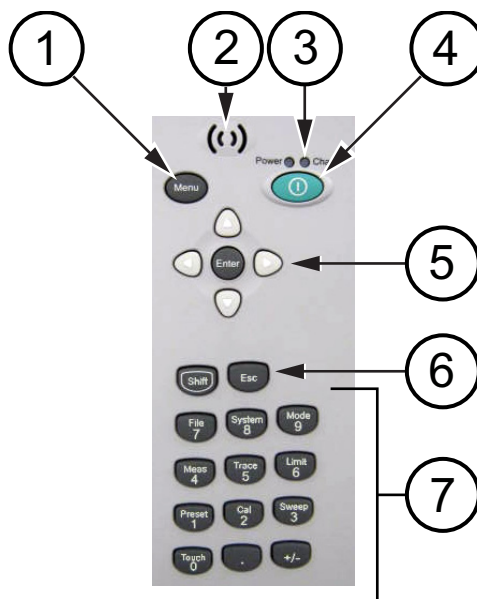

Figure 2-4. Front Panel Layout
(item 1 in Figure 2-4)
(item 4 in Figure 2-4)
(item 5 in Figure 2-4)
(item 6 in Figure 2-4)
(item 3 in Figure 2-4)
Number Keypad**(item 7 in Figure 2-4)**
+/- Key**(item 7 in Figure 2-4)**